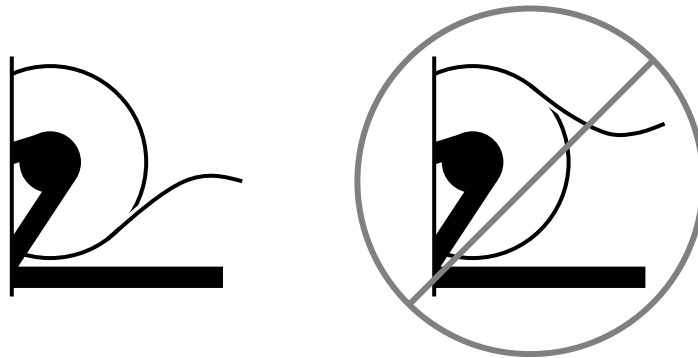

Figure 3. Correct (left) and incorrect (right) paper orientation
3. Insert paper roll into opening with paper coming off the bottom side of the roll (see Figure 3).